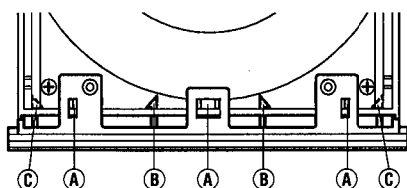

Fig. 3
- As the Lid is fixed with 7 hooks unhook these hooks as described below and then remove the Lid. (Fig. 3)
- Unhook 3 hooks (A) (upward).
- Unhook 2 hooks (B) (inward).
- Unhook 2 hooks (C) (outward).